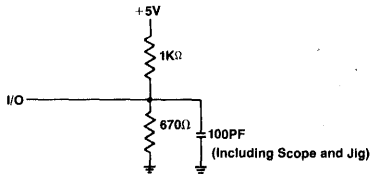

Figure 1 - Output Load
3. Transition is measured ± 200mV from steady state voltage with specified load of Figure 1.